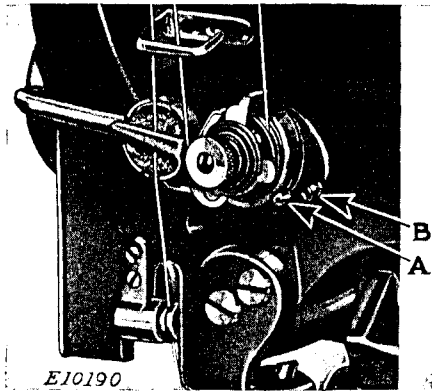

Fig. 27. Adjustments on Thread Controller
For more controller action on the thread, loosen the stop screw (A, Fig. 27) at the right of the tension and set the stop lower, and for less action set the stop higher, then tighten the stop screw (A).
To strengthen the action of the controller spring on the thread, loosen the tension stud screw (B, Fig. 27) at the right of the stop screw and turn the tension screw slightly to the left with a screwdriver, or to lighten its action, turn to the right and tighten the tension stud screw (B).